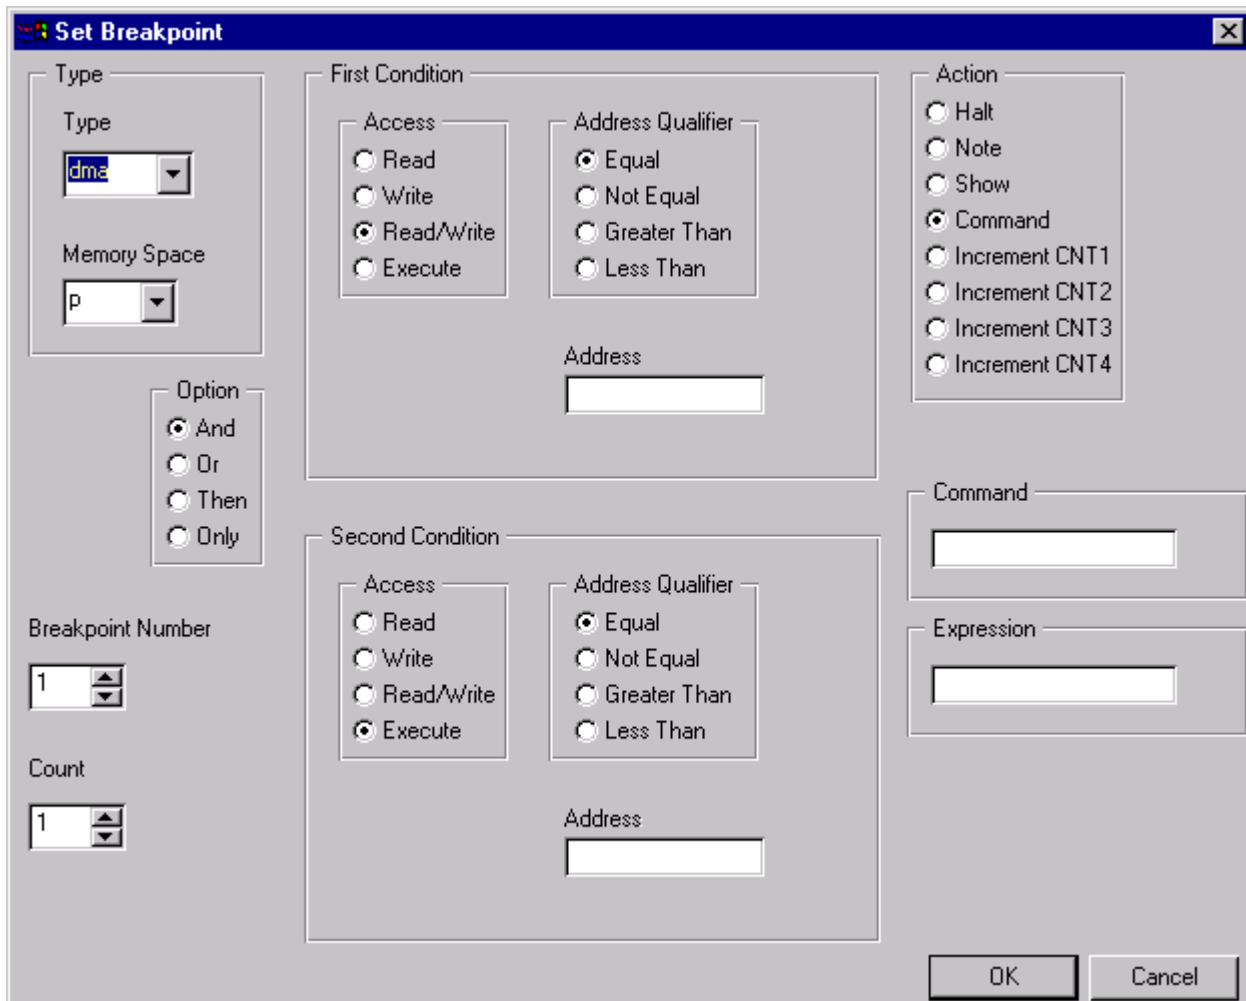

Figure 3-3. Setting a Hardware Breakpoint
1. From the **Execute** menu, choose **Breakpoints**, then select **Set Hardware**. The dialog box in Figure 3-3 appears.